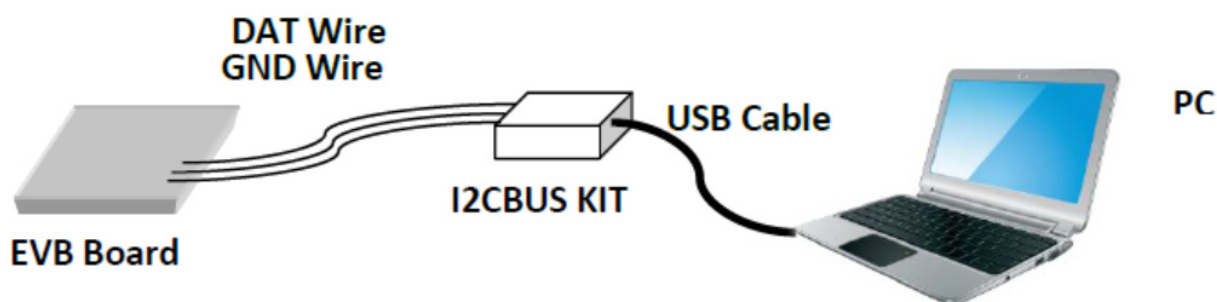

Figure6: Connection Diagram
4. Connect I2CBUS KIT to PC Via USB Cable (Like Figure6 shows).